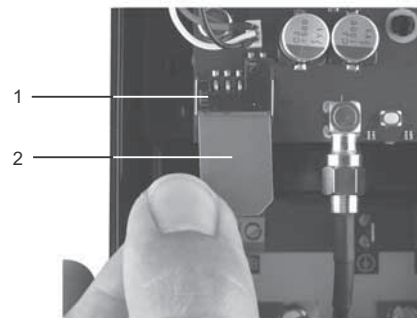

Fig. 20 Inserting the SIM card
3. Insert the SIM card into the CIM 250. See fig. 20.
The connectors on the SIM card must face inwards towards CIM 250. See fig. 20.